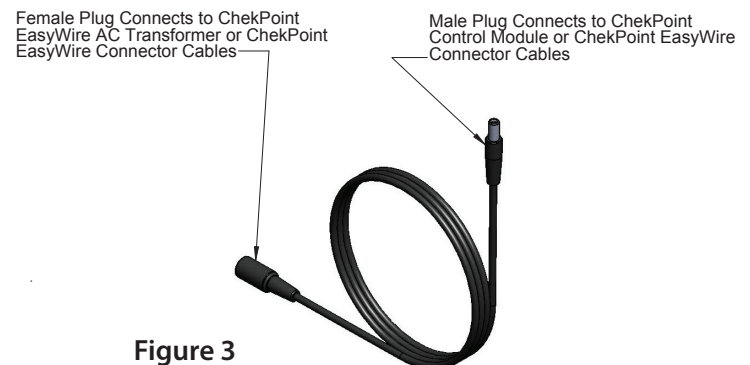

Figure 3
4. The EC-EASYWIRE5EXT kit is a 60" extension which can be used in between the multiple EC-EASYWIRE4CC and also the controllers (Figure 3).